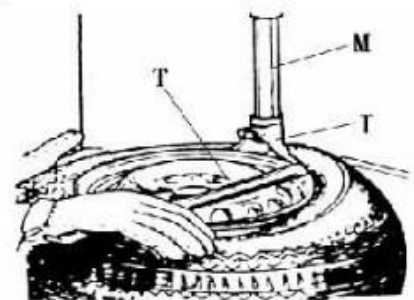

Fig 6
Lower the Vertical Arm (M) until the Mounting head/demounting head (I) rests next to the edge of the rim, flip the Locking Handle (K) to lock the Vertical Arm (M) and Horizontal arm in position, and control the distance from Mounting head/demounting head to the edge of wheel rim about 2-3 mm. Insert the Lifting Lever (T) between the tyre bead and the front section of the mounting head/demounting head (I), and move the tyre above the mounting head/demounting head as shown as **Fig 6**.